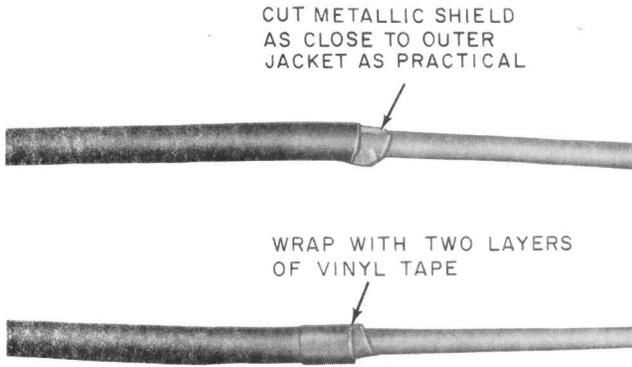
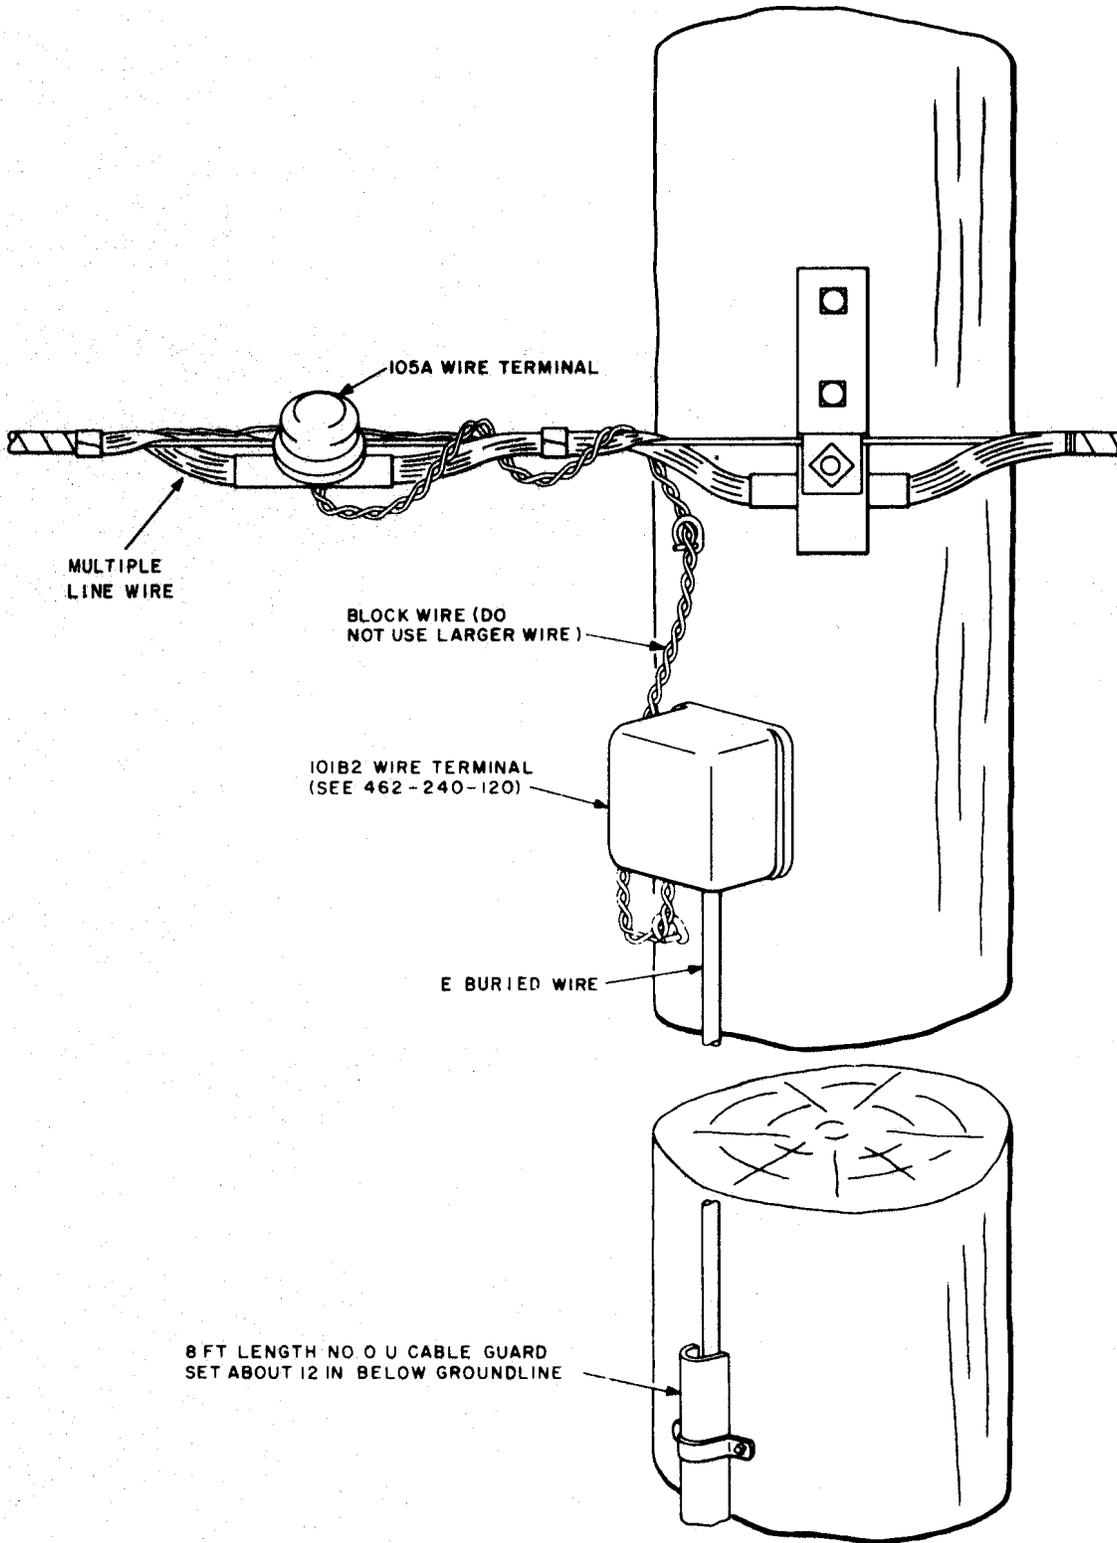

Fig. 26—Removal of Metallic Shield
Fig. 29—E Buried Wire Terminated to Multiple Line Wire
7.04 Where the buried wire is 700 feet or less in length, grounding of the metallic shield at the cable terminal is omitted, unless special lightning protection is required (see 7.07). Cut off the metallic shield at the terminal location and wrap with two turns of vinyl tape to protect against sharp edges (Fig. 26).
8.02 E buried wire can be used with or fed from multiple wire where the multiple wire is exposed to power contact and fuseless station protection is used. E buried wire should be brought up a pole and terminated in a 101B2 wire terminal. The metallic shield should be cut back and taped as shown in Fig. 26. Connect the conductors of E buried wire to the conductors of the multiple wire with block wire. At the groundline the wire should be covered with an 8-foot length of No. 0 U cable guard. Fig. 29 shows a typical example of E buried wire being connected to a 105-type wire terminal.
9.02 At the junction with C rural wire, E buried wire can be brought up a pole and terminated in a 101B2 wire terminal. The metallic shield should be cut off and taped as shown in Fig. 26. Block wire should be used to bridle between the 101B2 wire terminal and the 107-type wire terminal on the C rural wire. At the groundline, the E buried wire should be covered with an 8-foot length of No. 0 U cable guard. A typical installation is shown in Fig. 30.
10.02 At the junction with open wire, E buried wire can be brought up a pole and terminated in a 101B2 wire terminal. The metallic shield should be cut off and taped as shown in Fig. 26. Block wire must be used between the protector and the open wire. At the groundline, the wire should be covered with an 8-foot length of No. 0 U cable guard. A typical installation is shown in Fig. 31.